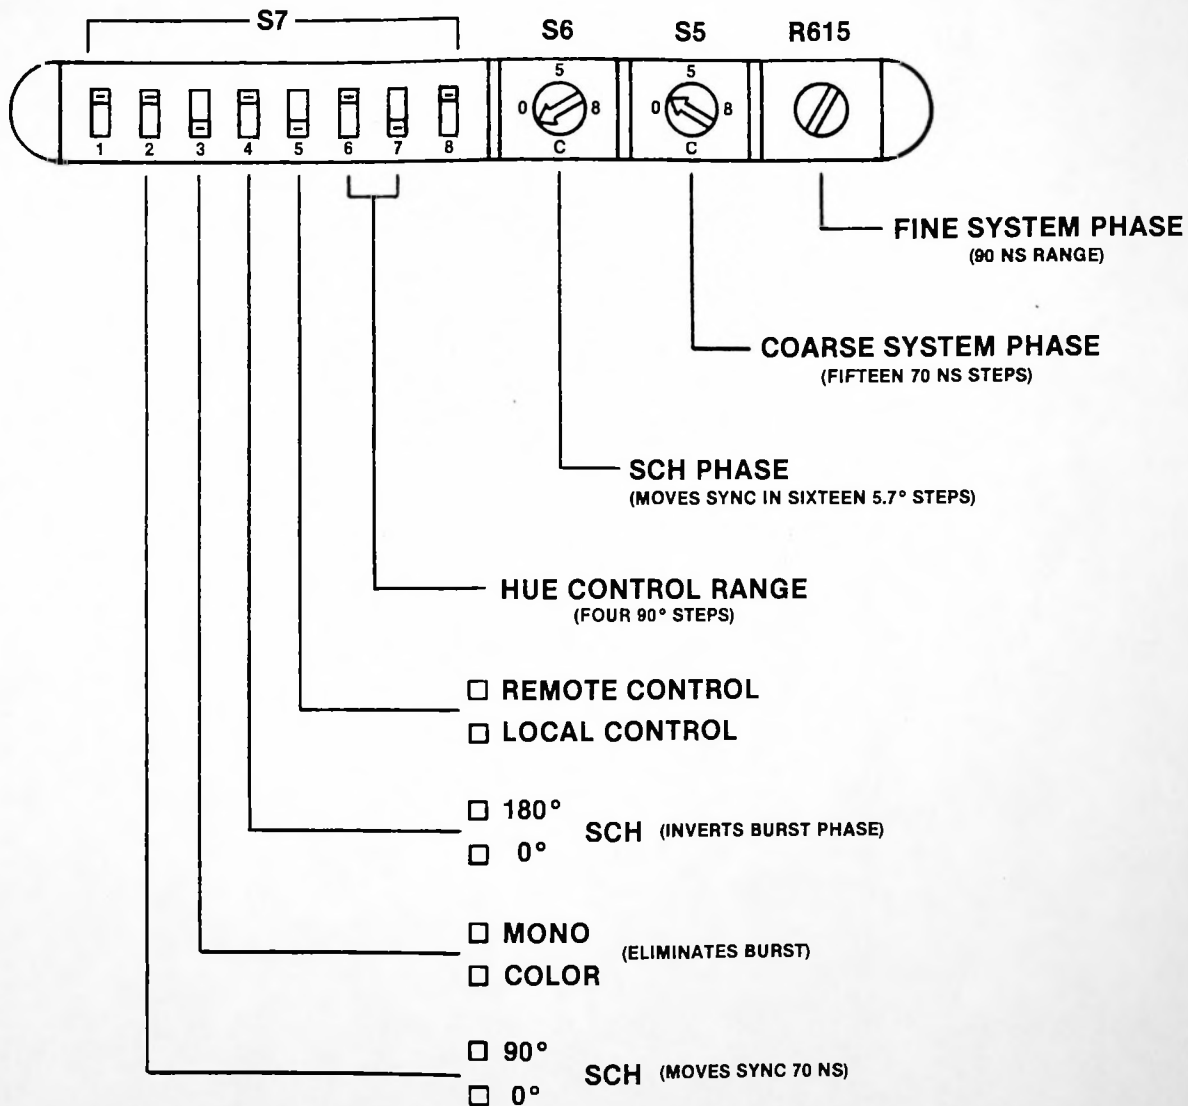

FIGURE 2.3
3. Refer to Figure 2.3 for the location of the system phase and subcarrier phase (SCH) controls.